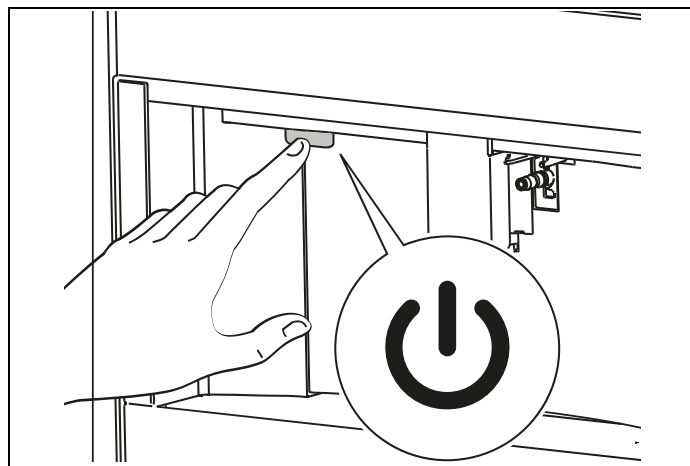

Fig. 23
- To switch the appliance on, press the button  (**A7-Fig. 23**): message **Heating up Please wait**, is shown on the display.
- To turn the appliance off, press the button  (**A7-Fig. 23**).
- 1) First turn the appliance off by pressing the button  (**A7-Fig. 23**);
Use this function to supply hot water from the coffee spouts **(A13)** to clean and heat the appliance's internal circuit. Place a container with a minimum capacity of 100 ml under the coffee and hot water spouts (Fig. 23).